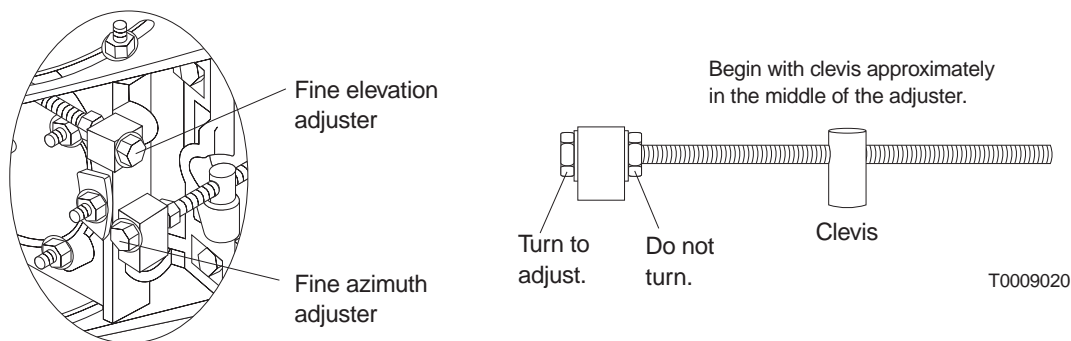

Figure 6-4 Fine azimuth and elevation adjusters
1. Turn the fine azimuth adjuster as necessary to position the clevis (barrel) approximately in the middle of the threaded part of the adjuster. See figure 6-4.
2. Turn the fine elevation adjuster as necessary to position the clevis approximately in the middle of the threaded part of the adjuster. See figure 6-4.